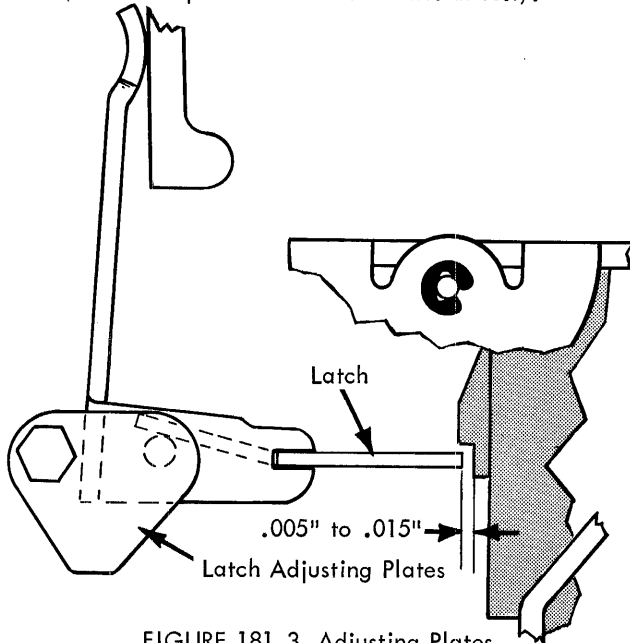

FIGURE 181.3 Adjusting Plates
3. Adjusting Plates (Fig. 181.3) - The actuator latch adjusting plates should be adjusted so that the actuator latches clear the rise on the actuator by $.005''$ to $.015''$ (With the operational cams latches at rest).